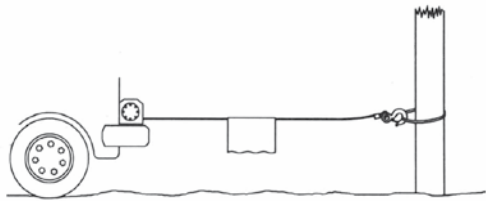

Figure 12
2. When pulling a load, place a blanket, jacket or damper over the winch rope near the hook end (see Fig.12). This will slow the snap back of a broken winch rope and help to prevent serious injury.